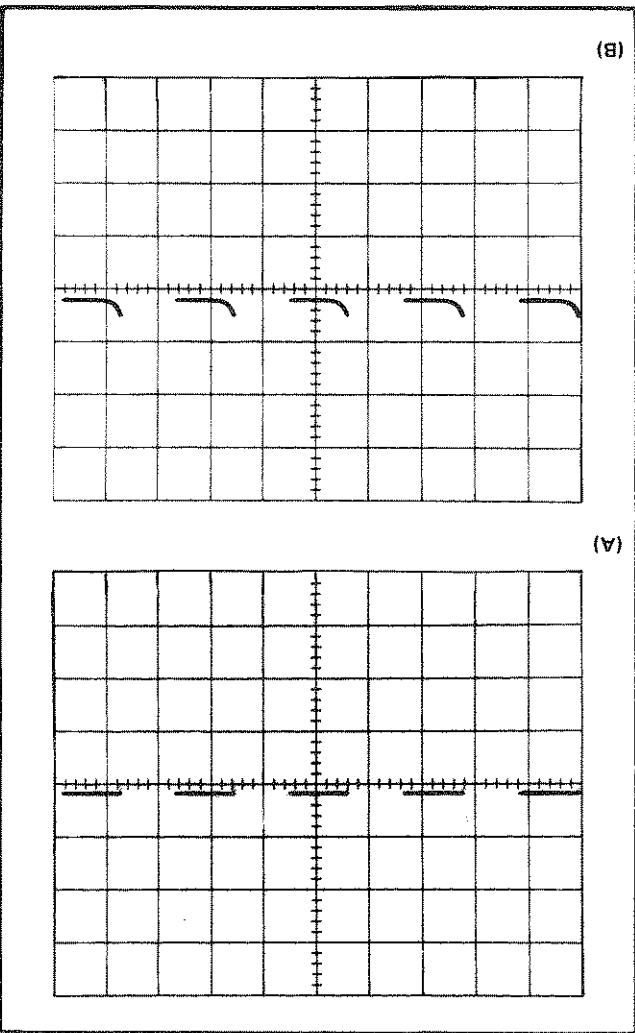

Fig. 5-2. Typical waveform showing (A) Cross neutralization properly adjusted, (B) incorrectly adjusted.
b. CHECK—The upper leading corner of the waveform, and note any aberration that occurs while switching the -INPUT AC-GND-DC switch from GND to DC. The waveform should appear similar to the one in Fig. 5-2. The aberration should not exceed $\pm 1\%$.
c. CHECK—The lower leading corner of the second cycle of the display and note any aberration that occurs while switching the +INPUT AC-GND-DC switch from GND to DC. The bottom leading corner of the waveform should appear similar to the one shown in Fig. 5-2. The aberration should not exceed $\pm 1\%$.